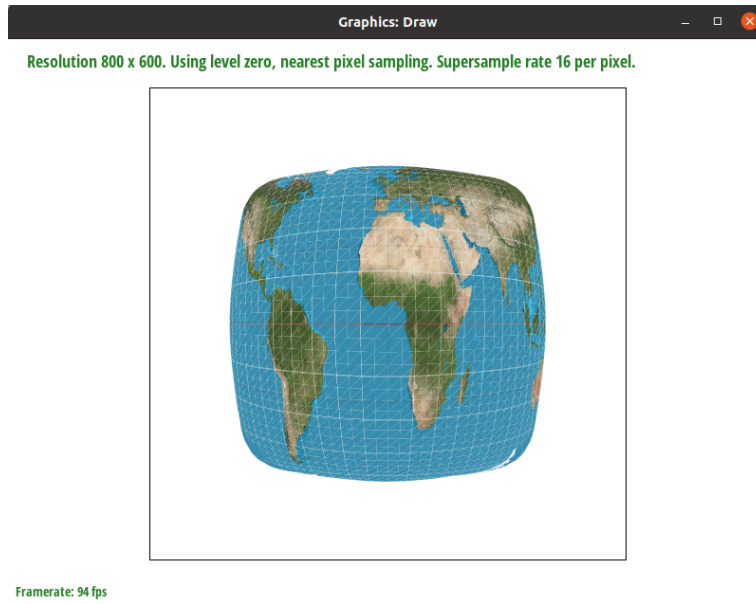
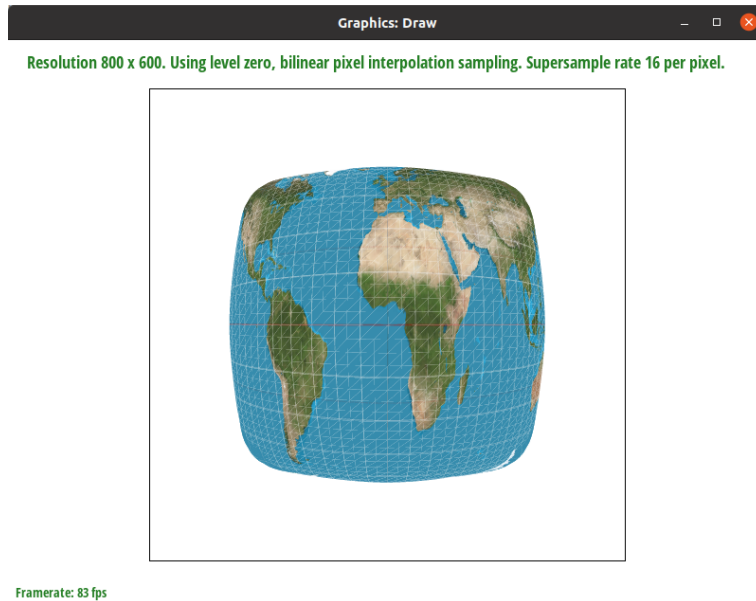

Figure 12: nearest sampling at 16 sample per pixel
Figure 14: bilinear sampling at 16 sample per pixel
When the sampling rate is high, both sampling methods can take into account the details, but because each sampling result of bilinear is a linear combination of four pixels, the color position information is retained more accurately, so the image is smoother than that generated by nearest sampling method. Figure 12 and Figure 14 are almost the same at first glance, but if you look closely at the part of the green area, you can see that Figure 14 is smoother than Figure 12.
**Bug of white seams:** White seams appear between closely assembled triangles in both Figures 12 and 14. This is because in order to save memory overhead during supersampling, each time a triangle is drawn, the edge is mixed with the foreground color and the background color. If a triangle is stacked on top of another triangle, the pixels on the edge will only do one effective blend of the foreground color and the background color, and the display will be normal. However, if the two triangles are closely assembled, and the edge pixels would do two effective blends of the foreground color and the background color, the proportion of the background color in the final displayed color will be higher than expected. As shown in Figure 12 and Figure 14, the edge of the